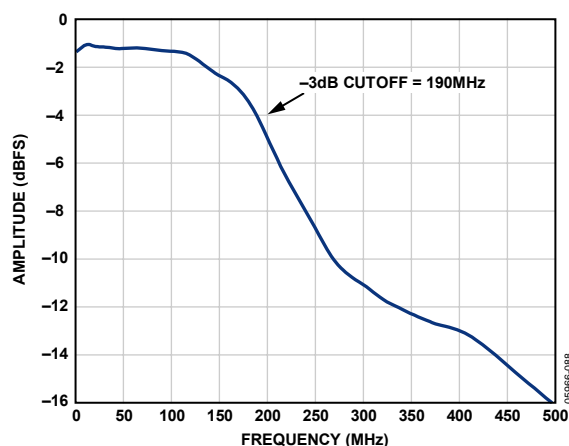

Figure 61. Evaluation Board Full-Power Bandwidth
- **AIN:** The evaluation board is set up for a transformer-coupled analog input with an optimum 50 Ω impedance match of 190 MHz of bandwidth (see Figure 61). For more bandwidth response, the differential capacitor across the analog inputs can be changed or removed. The common mode of the analog inputs is developed from the center tap of the transformer or AVDD_DUT/2.